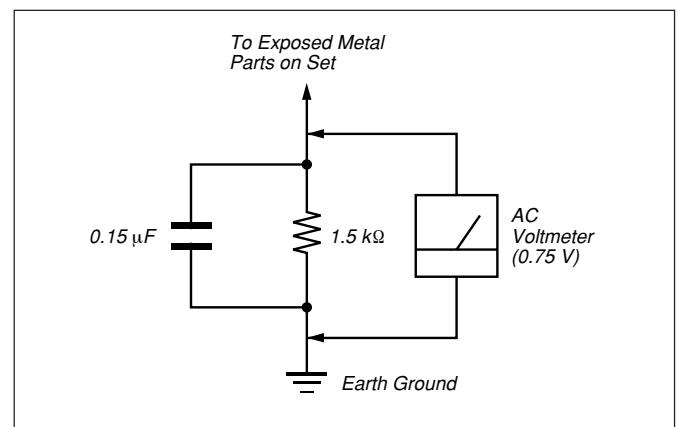

Figure 1. AC voltmeter to check AC leakage
3. Measuring the voltage drop across a resistor by means of a VOM or battery operated AC voltmeter. The 'limit' indication is 0.75V so analog meters must have an accurate low voltage scale. The SIMPSON'S 250 and SANWA SH-63TRD are examples of passive VOMs that are suitable. Nearly all battery operated digital multimeters that have a 2 VAC range are suitable. (see FIGURE 1)